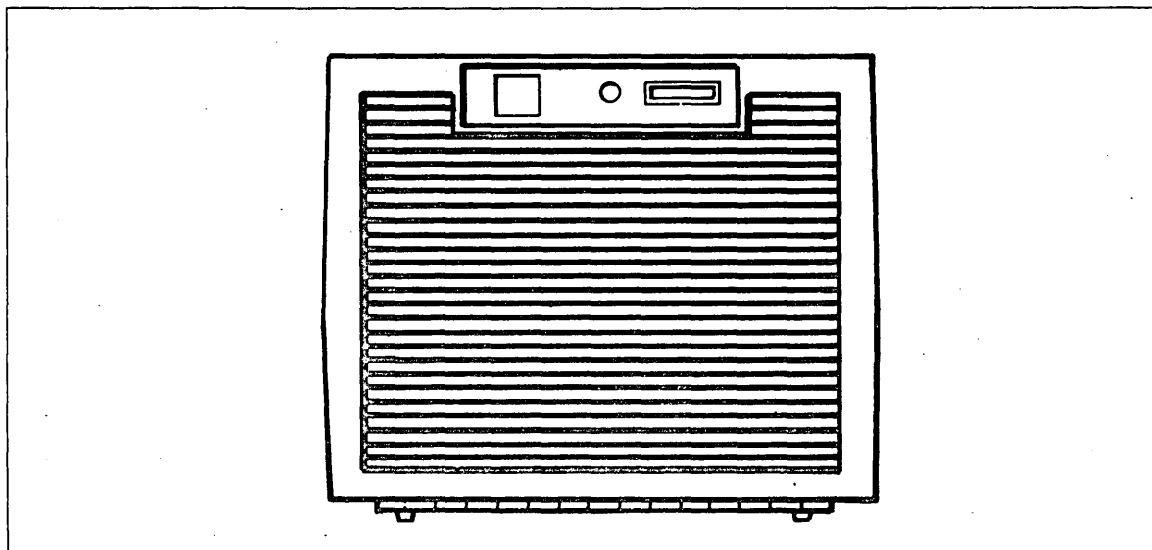

Figure 1-5. Device Interface
The device interface (DI) shown in figure 1-5 is available in several main variants. These variants are a function of both the physical configuration of the DI and the loaded software. Every DI variant consists of: